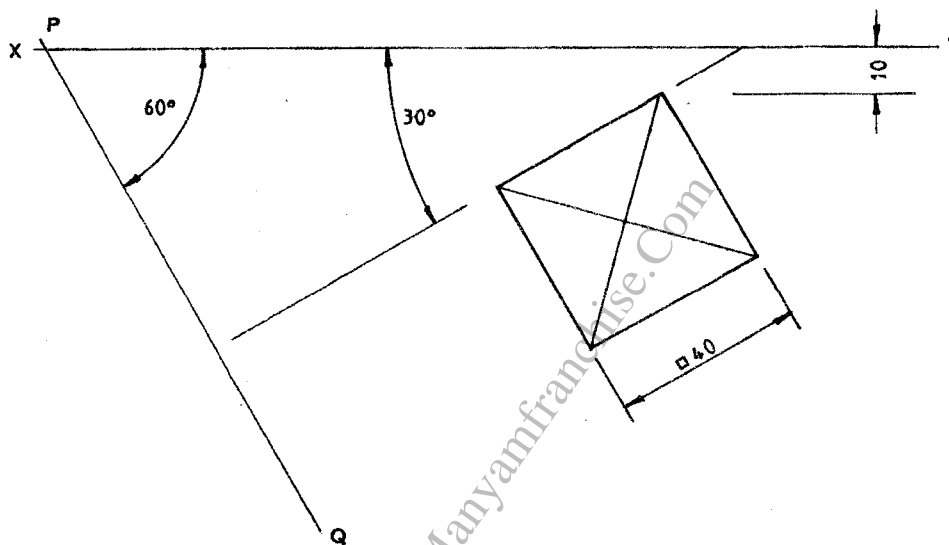

Figure 4
5. Figure 4 shows the plan of a solid square based pyramid whose perpendicular height is 30 mm.